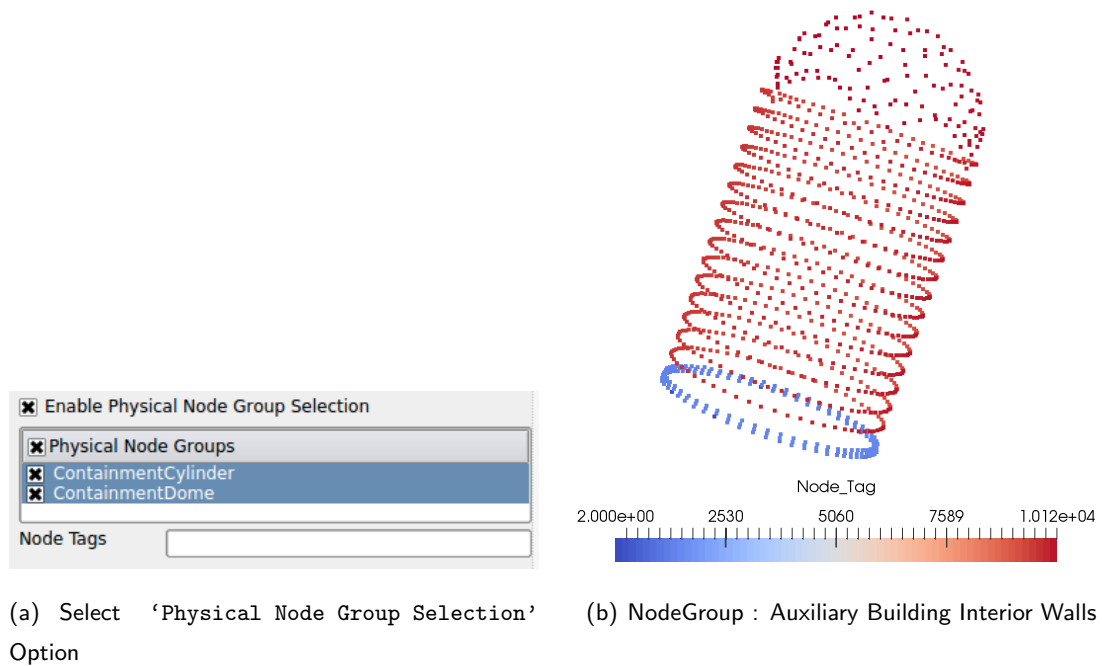

Figure 1.29: Visualization of physical groups predefined in input file using Real-ESSI DSL.
5. **Physical Node Groups** - It shows all the physical node groups defined in Input file of Real-ESSI. The user can select (one or more) of physical groups and hit apply to visualize them. It would show any effect only if the above options **Enable Physical Node Group Selection** is checked. Figure 1.29 shows steps to visualize the physical element groups defined in input files using Real-ESSI DSL.